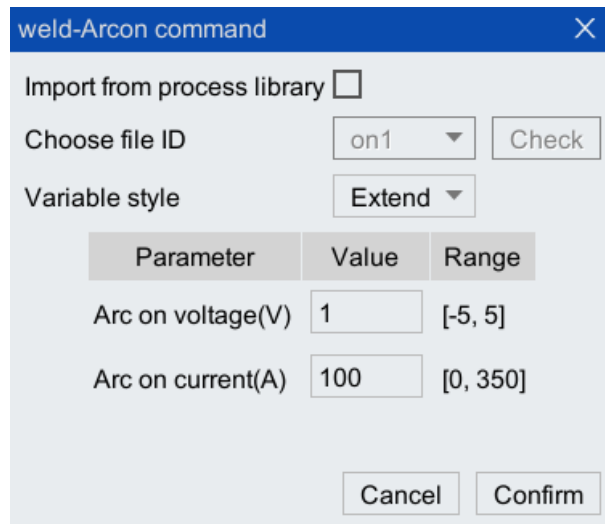

Figure 9-10 Arc on command configuration interface
Step6. Complete the parameter configuration on the pop-up [weld-Arcon command] interface (as shown in Figure 9-10), and click <Confirm>. A start weave command is automatically generated. As shown in Figure 9-11.